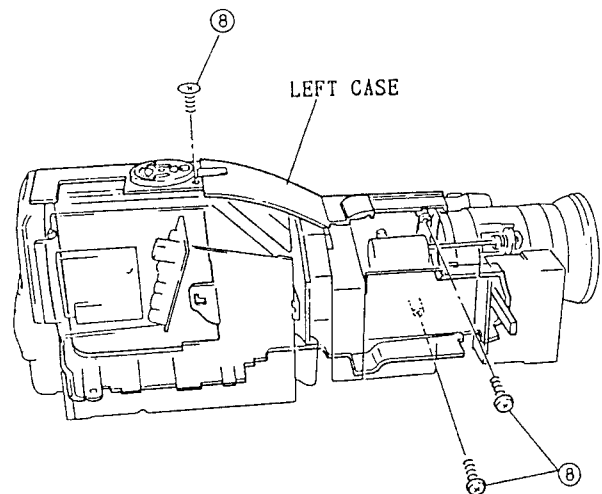

Fig. 2-11
8. Remove three (3) screws holding the left case. (See Fig. 2-11)